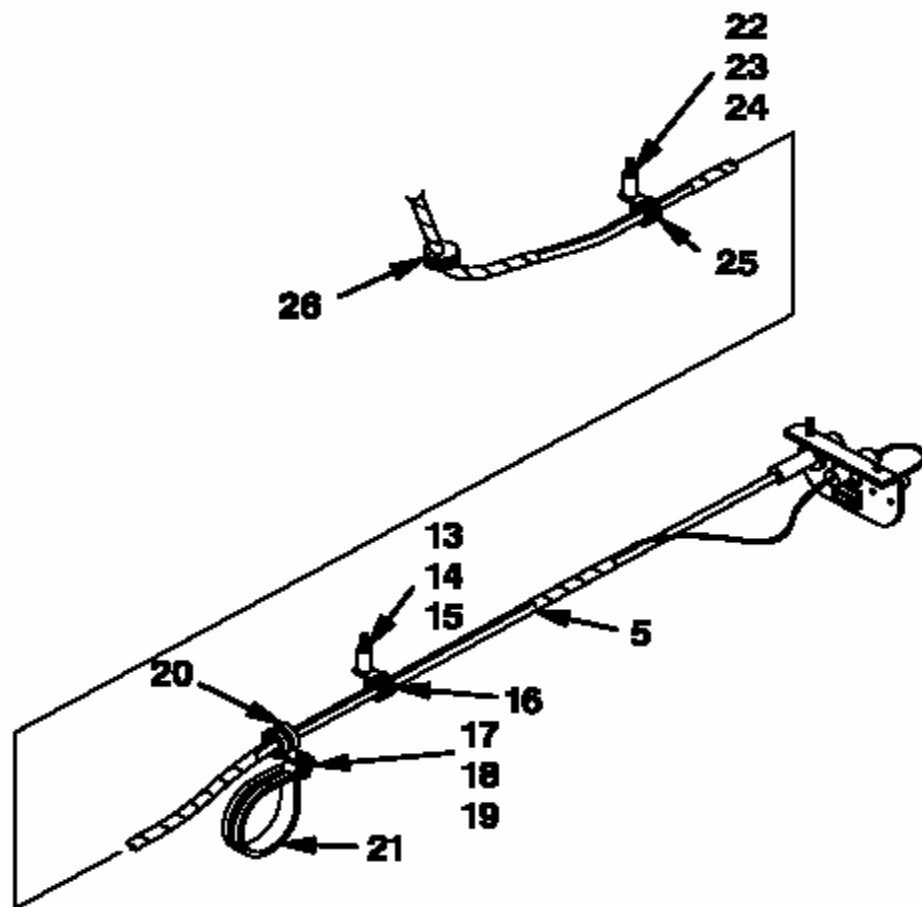

Figure 9
- (5) Remove screw (13), washer (14), and spacer (15). (See Figure 9.)
- (6) Remove clamp (16) from cable assembly (5).
- (7) Remove nut (17), washer (18), and screw (19).
- (8) Remove clamp (20) from cable assembly (5).
- (9) Remove clamp (21) from forward crosstube.
- (10) Remove screw (22), washer (23), and spacer (24).
- (11) Remove clamp (25) from cable assembly (5).
- (12) Remove grommet (26) from bottom of fuselage.